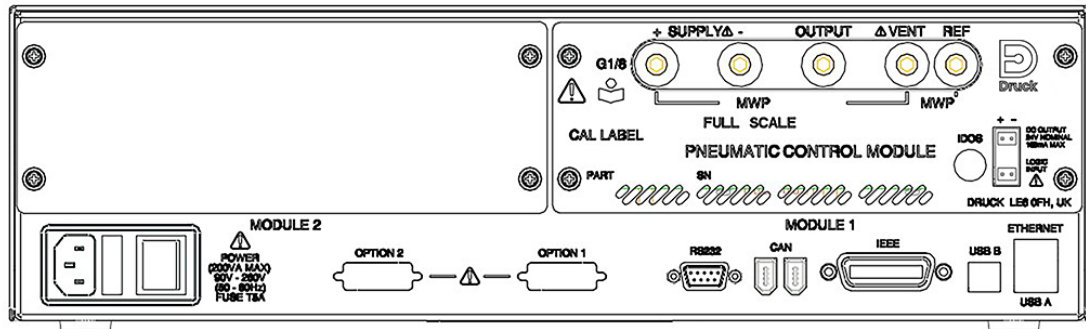

Figure 2-4: Control Module Rear View
- The control module with the highest pressure rating is fitted to the right hand side. This is labeled as Module 1 as viewed from the rear of the product. Refer to Figure 2-4.
- If two control modules have the same pressure rating, the control module with the higher serial number is fitted to the right hand side. This is labeled as Module 1 as viewed from the rear of the product. Refer to Figure 2-4.